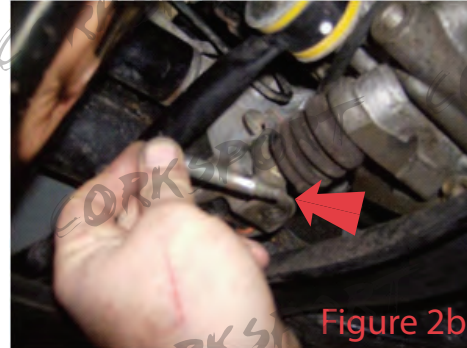

Figure 2b
- B) Remove the shift linkage bolt by pulling it up and out, shown in figure 2b.